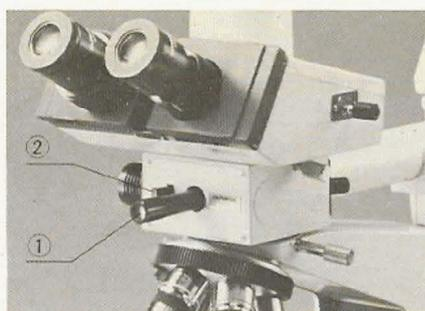

Fig. 1
- 2) Handle the manipulator lever ① to guide the pointer to any position in the field of view (field number 20*). (Fig. 1)
- 3) Choose the filter color, green or orange, by means of the filter selector lever ② according to the specimen tint. (Fig. 1)